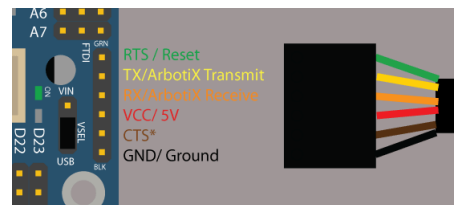

Figure 2.6: FTDI-USB Cable Connection
- set up communication between the board and the computer using the provided FTDI-USB cable; this cable can only be connected in one way as shown in Figure 2.6; the port on the board also indicates which side corresponds to the green cable and which side to the black;